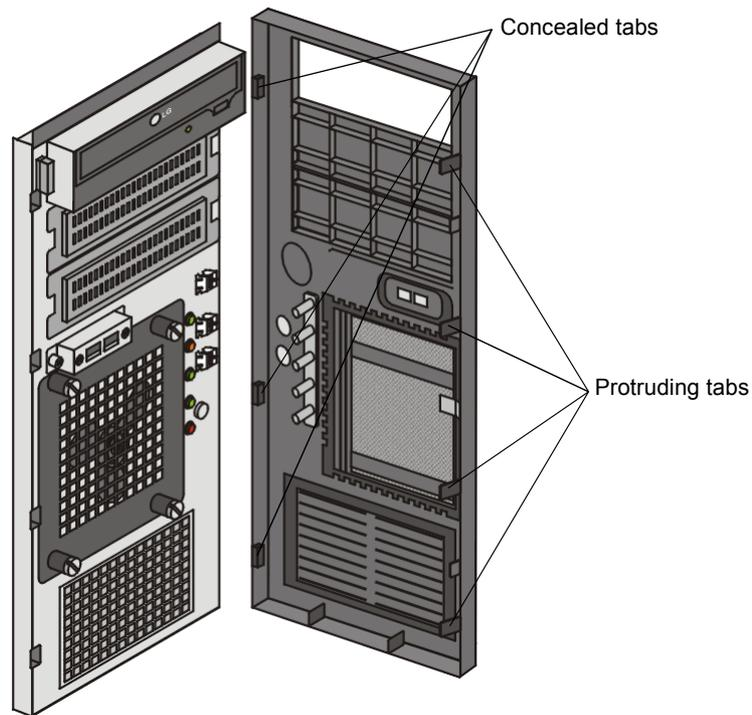

Figure 11: Front panel removed showing protruding and concealed tabs
4. Inside the chassis, lift the two protruding tabs that secure the front panel to the front of the chassis and move the edge of the front panel slightly away from the chassis. See step 4 in Figure 10 and Figure 11 on page 97.
Note: While pushing the front panel into place, be careful not to damage the USB port. See Figure 11 on page 97.